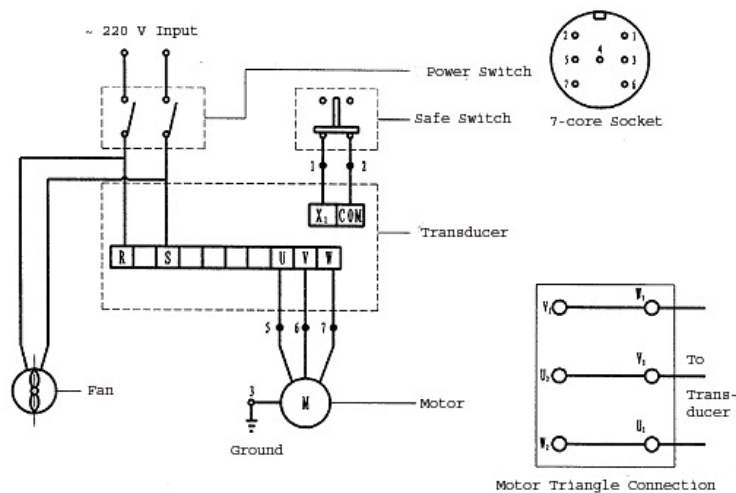

Figure 3: Wiring Diagram of Electrical Appliance
1. Motor selected: Y802 220V. Please see the wiring diagram of electrical appliance as shown in figure 3 for details. The wiring of this machine has already been conducted before it leaves the factory, so it shall not be changed at random.